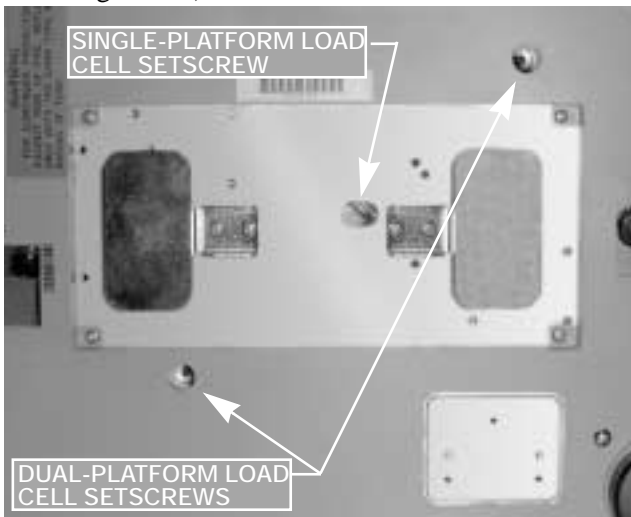

Figure 2-1. Location of Load Cell Setscrews for Single- and Dual-Platform Scales
1. Turn scale on side. Loosen locknut 1/4 turn (see Figure 2-1).